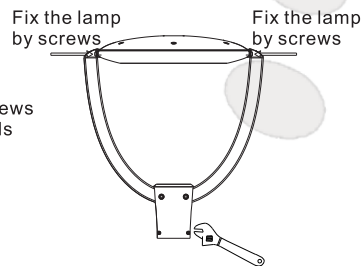

Figure 3
3. Loosen the screws by wrench. (Figure 3)